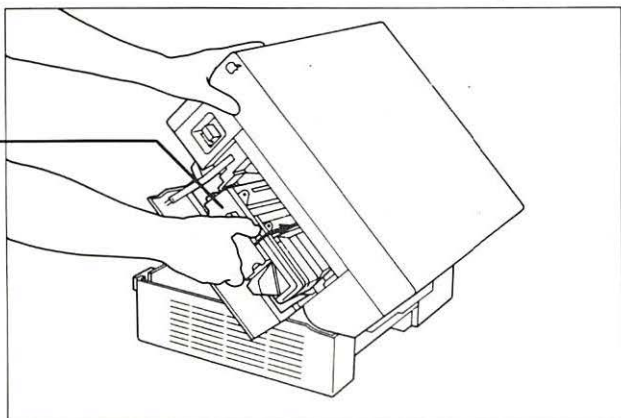

FIGURE 5-9
1. Fully insert the new toner cartridge into the printer (Figure 5-9).